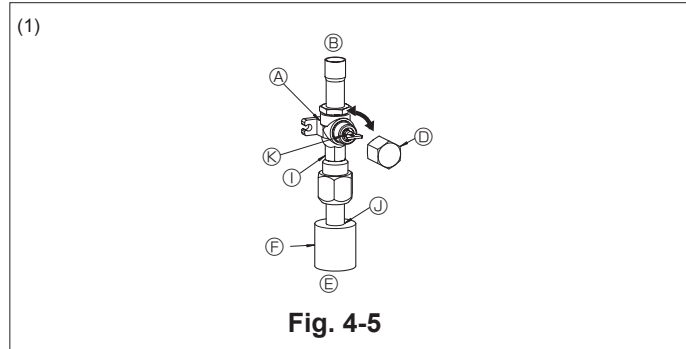
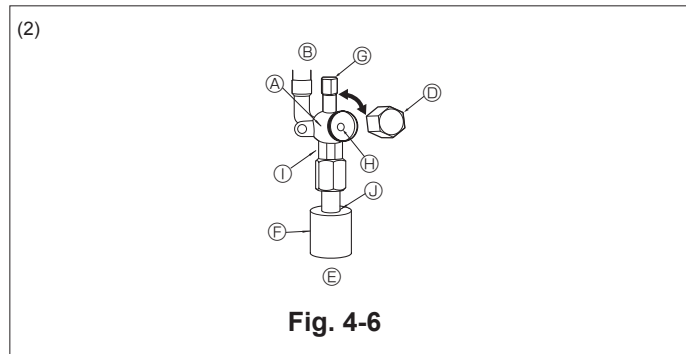

Fig. 4-5
Fig. 4-6
- (1) Gas side (Fig. 4-5)
- ① Remove the cap, pull the handle toward you and rotate 1/4 turn in a counterclockwise direction to open.
- ② Make sure that the stop valve is open completely, push in the handle and rotate the cap back to its original position.
- (2) Liquid side (Fig. 4-6)
- ① Remove the cap and turn the valve rod counterclockwise as far as it will go with the use of a 4 mm hexagonal wrench. Stop turning when it hits the stopper. (ø6.35, 1/4 inch: Approximately 4.5 revolutions) (ø9.52, 3/8 inch: Approximately 10 revolutions)
- (A) Valve